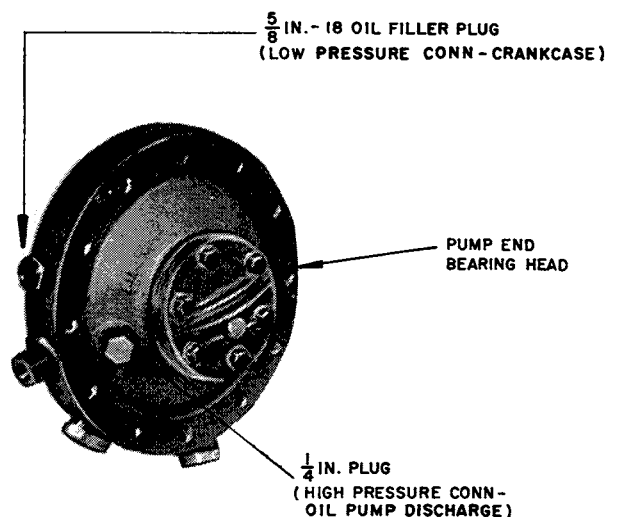

Fig. 2 — 5F Connections
5F Compressors (see Table 1 and Fig. 2) — Remove oil fill plug and replace with adapter and gasket washer (items 2 and 3). Install flare coupling (item 4) in adapter and connect capillary from low-pressure side of oil safety switch.